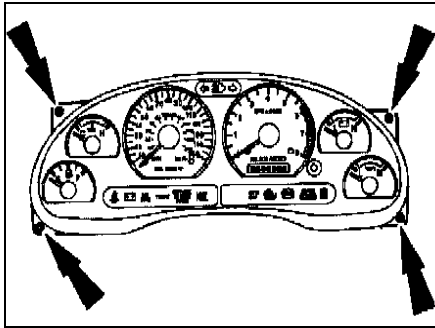

Figure 3
- A. Remove the four screws in the top and bottom outer corners of the instrument cluster with a T-15 Torx Bit or a 7mm socket driver. (See Figure 3)